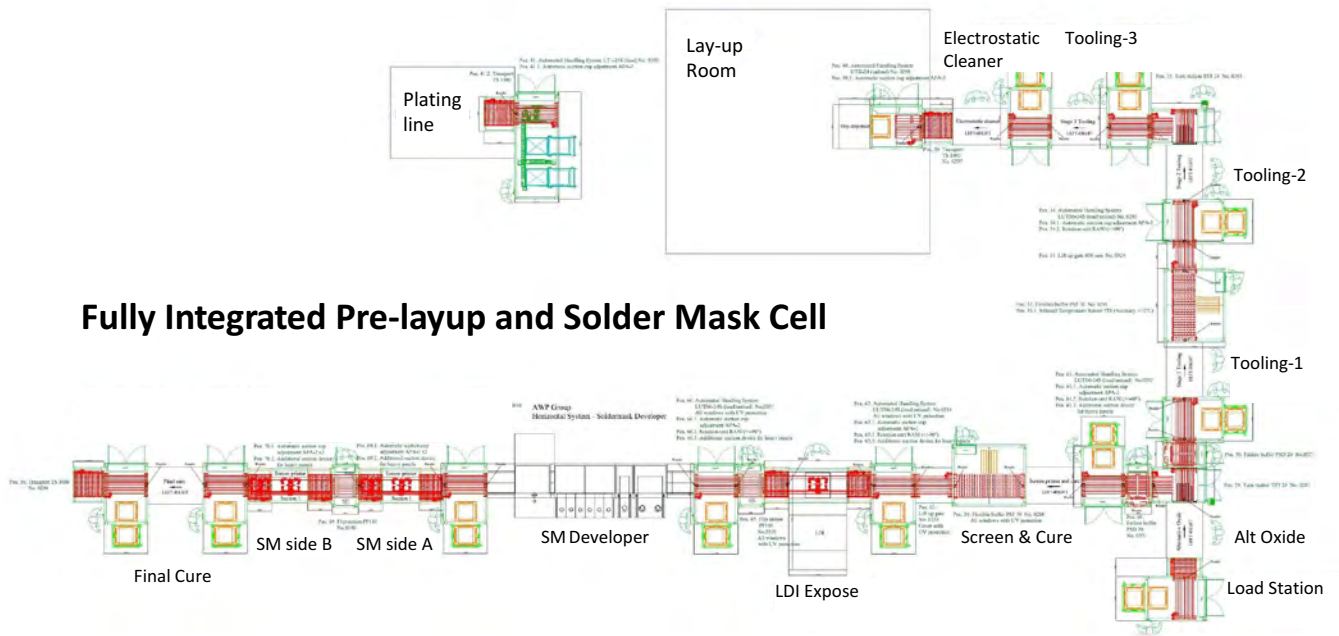

Figure 11: Integrated multilayer layup and lamination prep and the final cure for solder mask.
3. Fully automated multilayer layup and solder mask final cure (Figure 11)